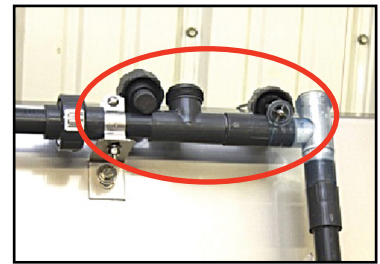

Figure 6 – Probe and Flow Switch
2.8 **Before removing the Podium Module from its shipping assembly:** Remove supplied hardware from upper and lower flanges of the Podium Module. Unscrew conductivity probe and flow switch from piping and secure their O-rings. See Figure 6.